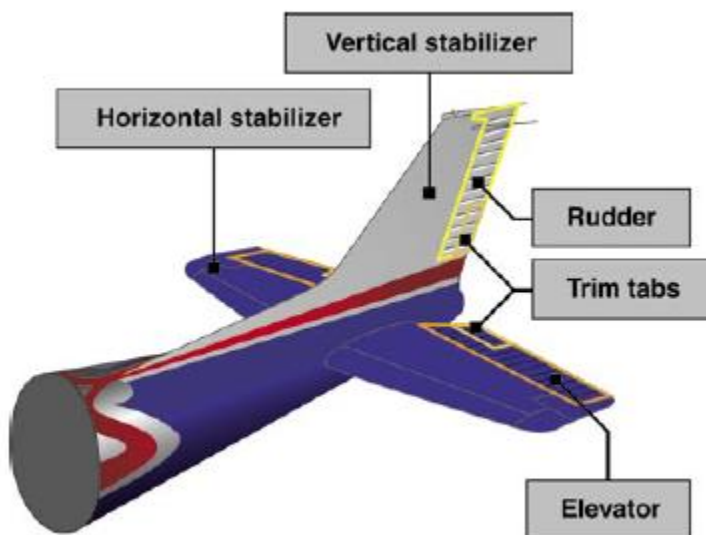

Figure 2-10. *Empennage components.*
- The movable surfaces include the rudder, the elevator, and one or more trim tabs. [Figure 2-10]